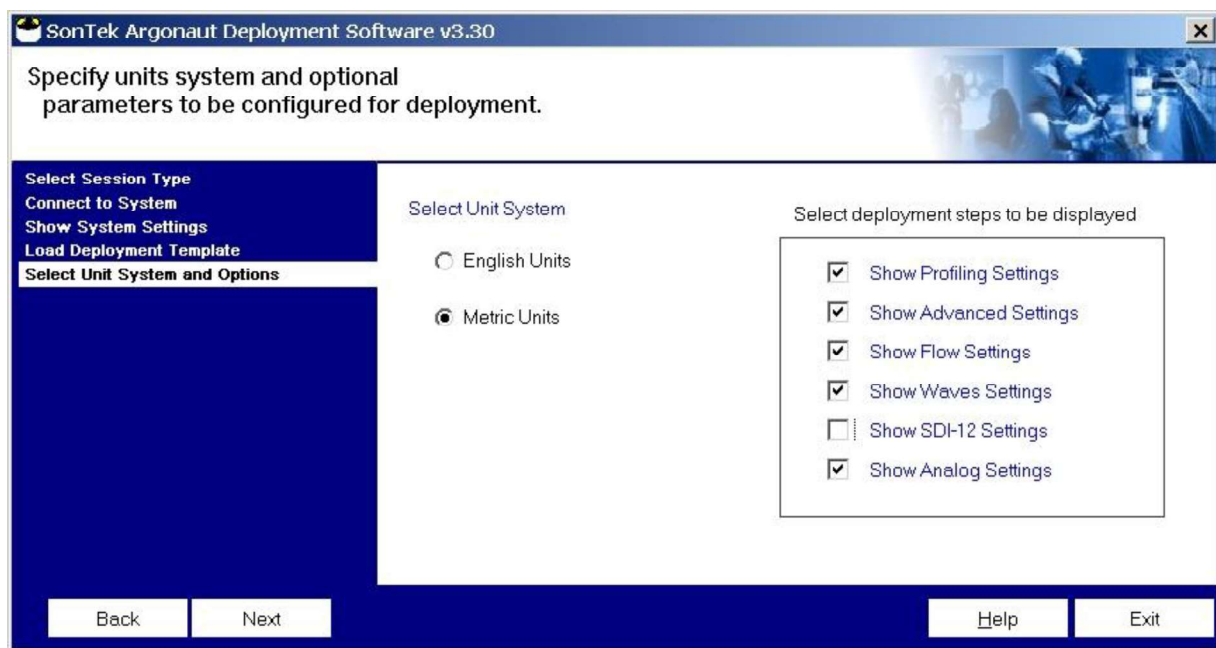

Figure 5-32. Deployment Software: Parameter Overview
- All system parameters can be input in either **English Units** or **Metric Units**, as chosen in the **Select Unit System and Options** screen (**Figure 5-32**). This setting also affects the output units used for any real-time output data (RS-232, SDI-12, or analog output).